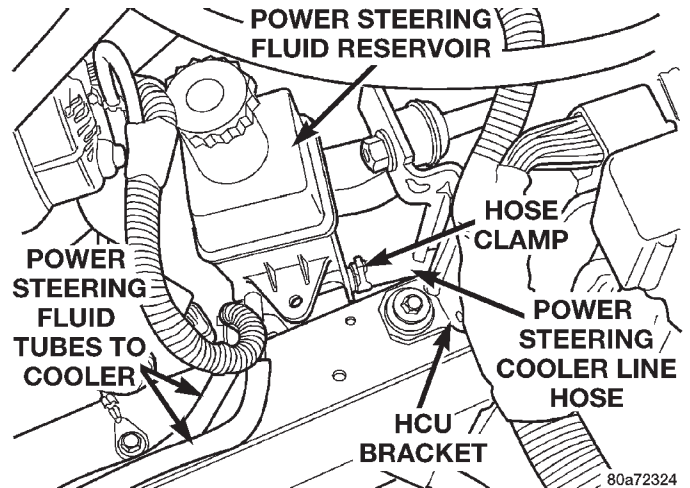

Fig. 27 Cooler Line Attachment To Reservoir
- (7) Remove the power steering cooler line hose (Fig. 27) from the power steering fluid reservoir.
(6) Move the power steering fluid reservoir back into position. Install the power steering cooler line hose (Fig. 27) on the nipple of the power steering fluid reservoir. Install the hose clamp (Fig. 27) on the hose. **Be sure clamp is installed on power steering fluid hose past the upset bead on the hose fitting.**